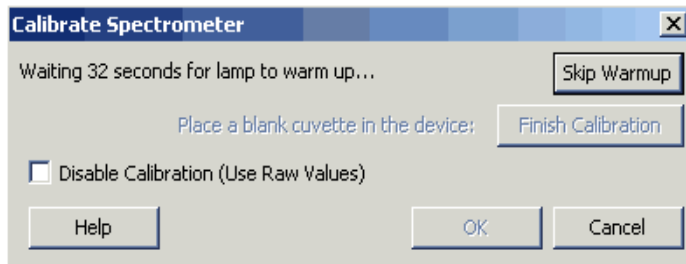

Figure 2. Calibration stores a reference spectrum.
4. To calibrate the Spectrometer, choose Calibrate → Spectrometer from the Experiment menu. The calibration dialog box will display the message: “Waiting...60 seconds for lamp to warm up.” (see Figure 2) The minimum warm up time is one minute. **NOTE: For best results, allow the spectrometer to warm up for at least five minutes.** Following the instructions in the dialog box to complete the calibration, use a cuvette filled about $\frac{3}{4}$ full with the solvent or buffer for